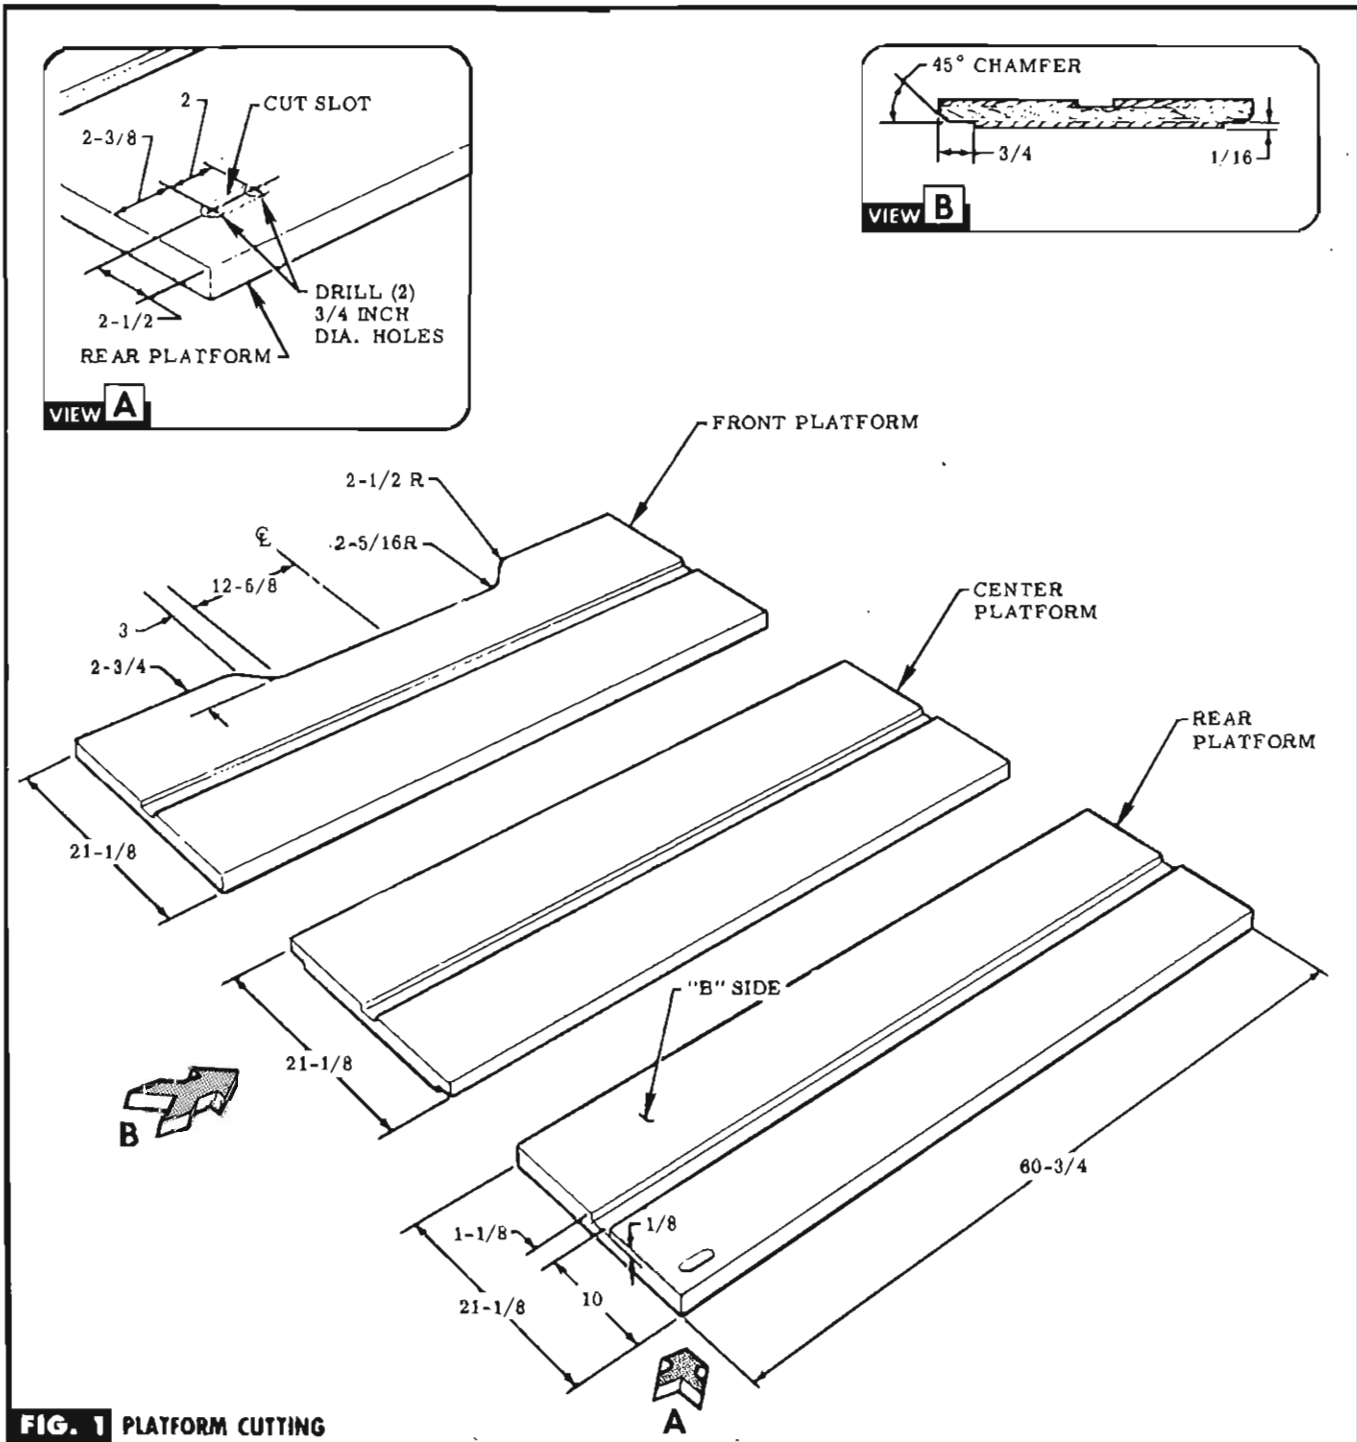

FIG. 1 PLATFORM CUTTING
STEP 2 CUT (3) EQUAL PARTS OF PLYWOOD TO DIMENSION SHOWN. SEE FIG. 1.
STEP 3 CUT GROOVE IN ALL (3) PARTS ON "B" SIDE . SEE FIG. 1.
STEP 4 DRILL (2) HOLES & CUT SLOT IN (1) PART DESIGNATED "REAR PLATFORM". SEE VIEW A.
STEP 5 CUT GROOVES & CHAMFER ALONG EDGES ON OPPOSITE SIDE OF GROOVE ON (1) PART DESIGNATED "CENTER PLATFORM". SEE VIEW B.
STEP 6 CUT OUT AREA ON REMAINING PART DESIGNATED "FRONT PLATFORM". SEE FIG. 1.